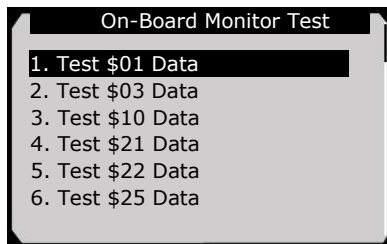

Figure 5.27
- 5) From **On-Board Monitor Test** menu, use the **UP/DOWN** scroll button to select a test to view and press the **OK** button. (Figure 5.27)